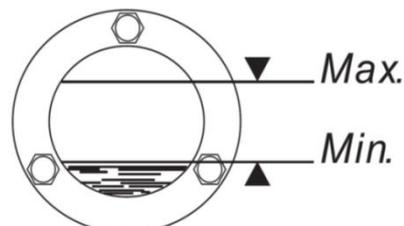

Figure 6-1 Oil level range
- Control the lubricant injection amount within the range of the horizontal position shown in Figure 6-1;